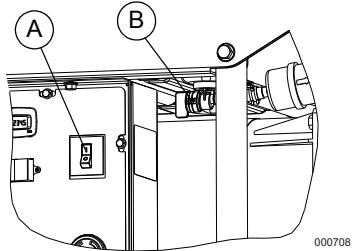

Figure 3-2. Main Breaker Switch and Fuel On/Off Valve
3. Turn main breaker switch Off (A). See Figure 3-2.
4. Turn fuel valve On (B). See Figure 3-2.
1. Allow engine to run for at least 10 seconds, then turn main breaker On (A). See Figure 3-2 or Figure 3-4.
1. Turn main breaker switch to Off (A). See Figure 3-2 or Figure 3-4.
4. Turn fuel valve On (A). See Figure 3-2.